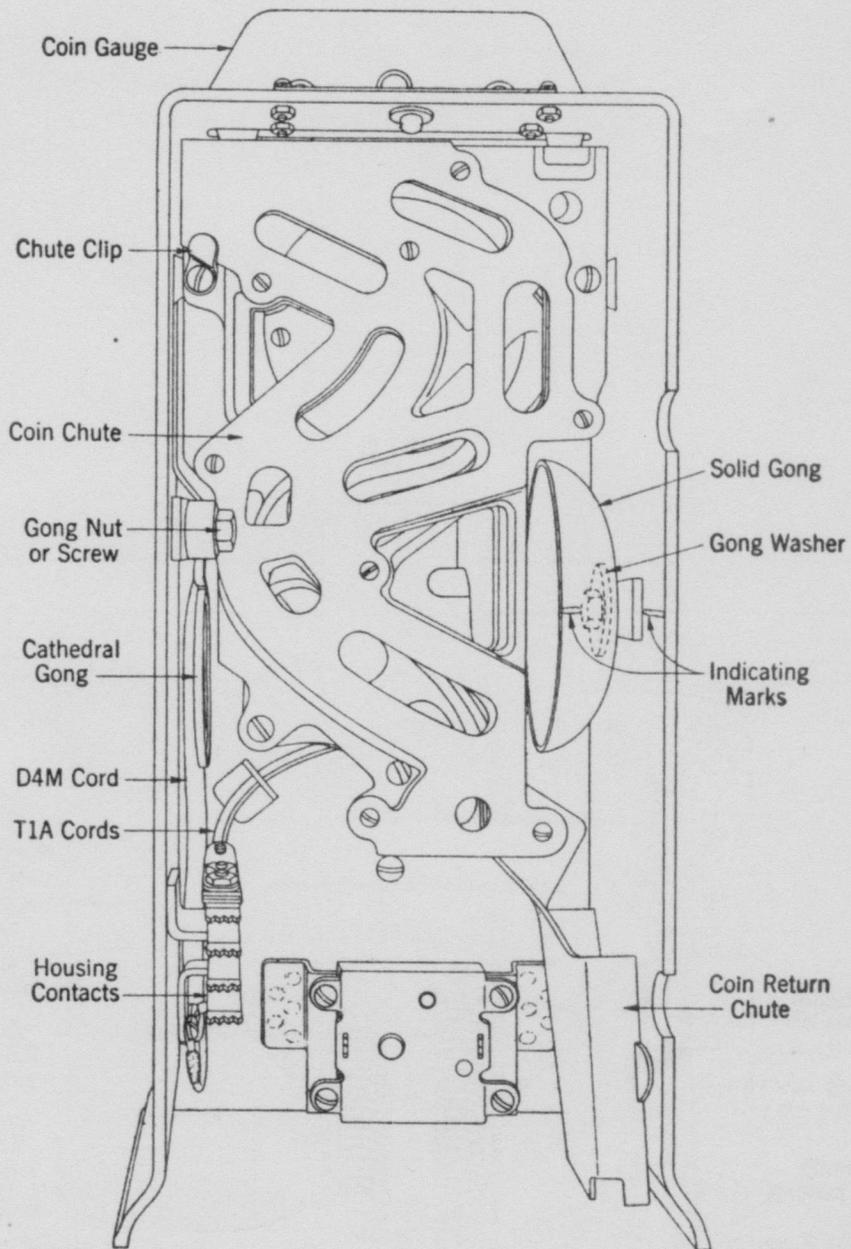

Fig. 2.
2.03 See that chute clip is installed on all chutes except on P-242923 and P-243570 chutes. (See Fig. 2.)